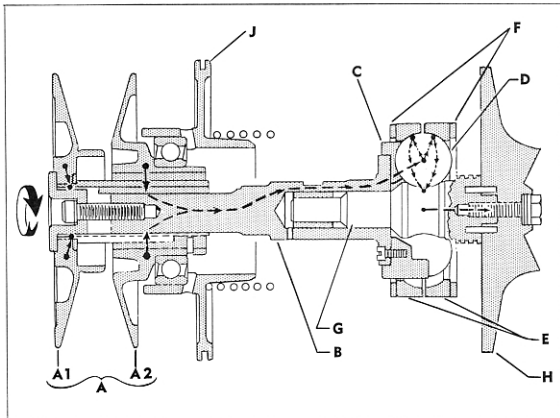

FIG. 1 POWER FLOW THROUGH DRIVE
Figure 1 shows the power flow through the drive system of the supercharger. (A) is the variable-ratio input pulley. The fixed flange (A-1) of the